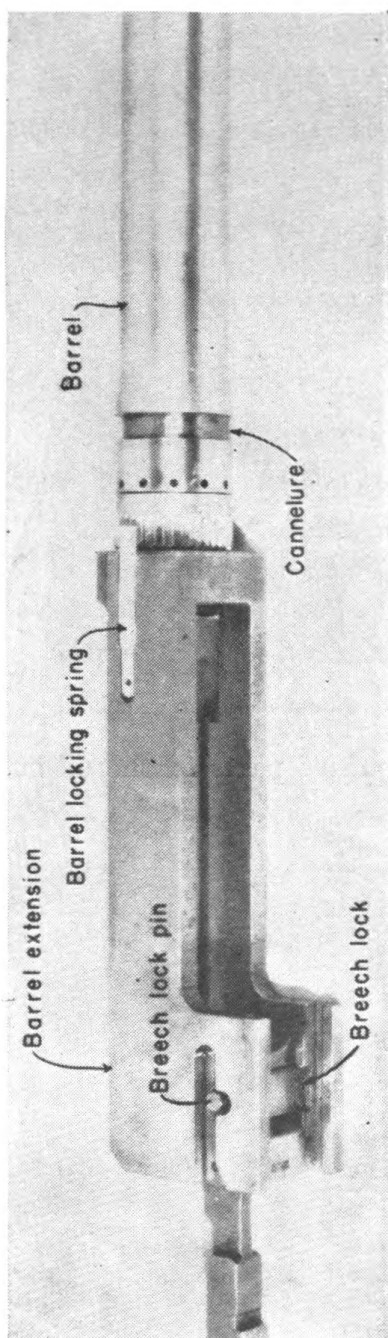

FIGURE 40.—Barrel group.
Q. Identify the component parts of the barrel group. A. See figure 40.
Q. Explain the disassembly of the barrel group. *A.* See figure 40. Unscrew the barrel from the barrel extension. Remove the barrel-locking spring by sliding it forward out of its seat in the barrel extension. Push out the breech lock pin and remove the breech lock.